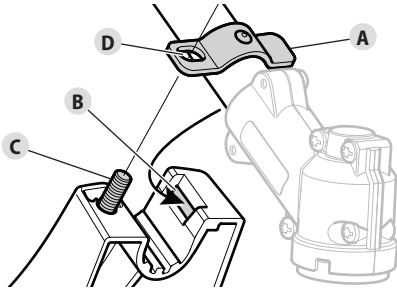

Fig. 3
2. Insert the short tab (the one without a hole) on the mount bracket (Fig. 3-A) into the slot on the cutting head shield (Fig. 3-B).
3. Rotate the cutting head shield until the bolt on the cutting head shield (Fig. 3-C) protrudes through the hole on the mount bracket (Fig. 3-D).